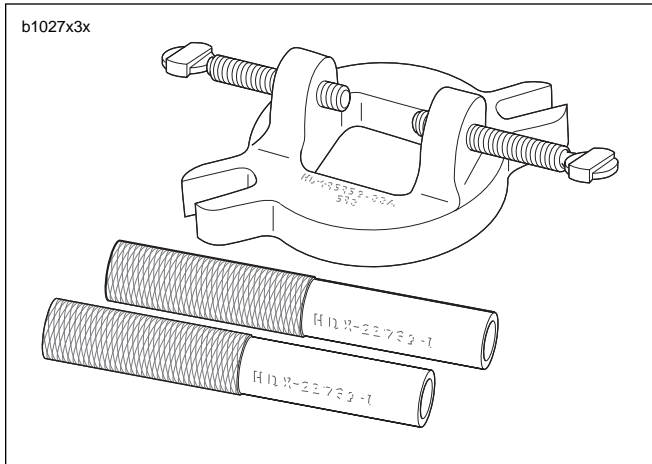

Figure 3-97. Connecting Rod Clamping Tool (Part No. HD-95952-33B)
1. See Figure 3-97. Secure connecting rod with CONNECTING ROD CLAMPING TOOL (Part No. HD-95952-33B).